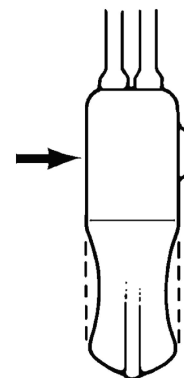

Figure 4-43. Cotton Swab Method
2. Take a cotton tip swab and apply pressure to area directly behind deactivation button. **(Figure 4-43)**